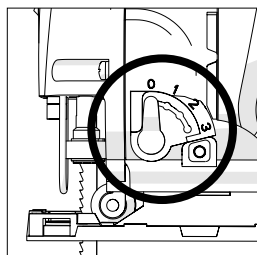

Fig 4
4. CUTTING ACTION SELECTION SWITCH (Fig. 4)